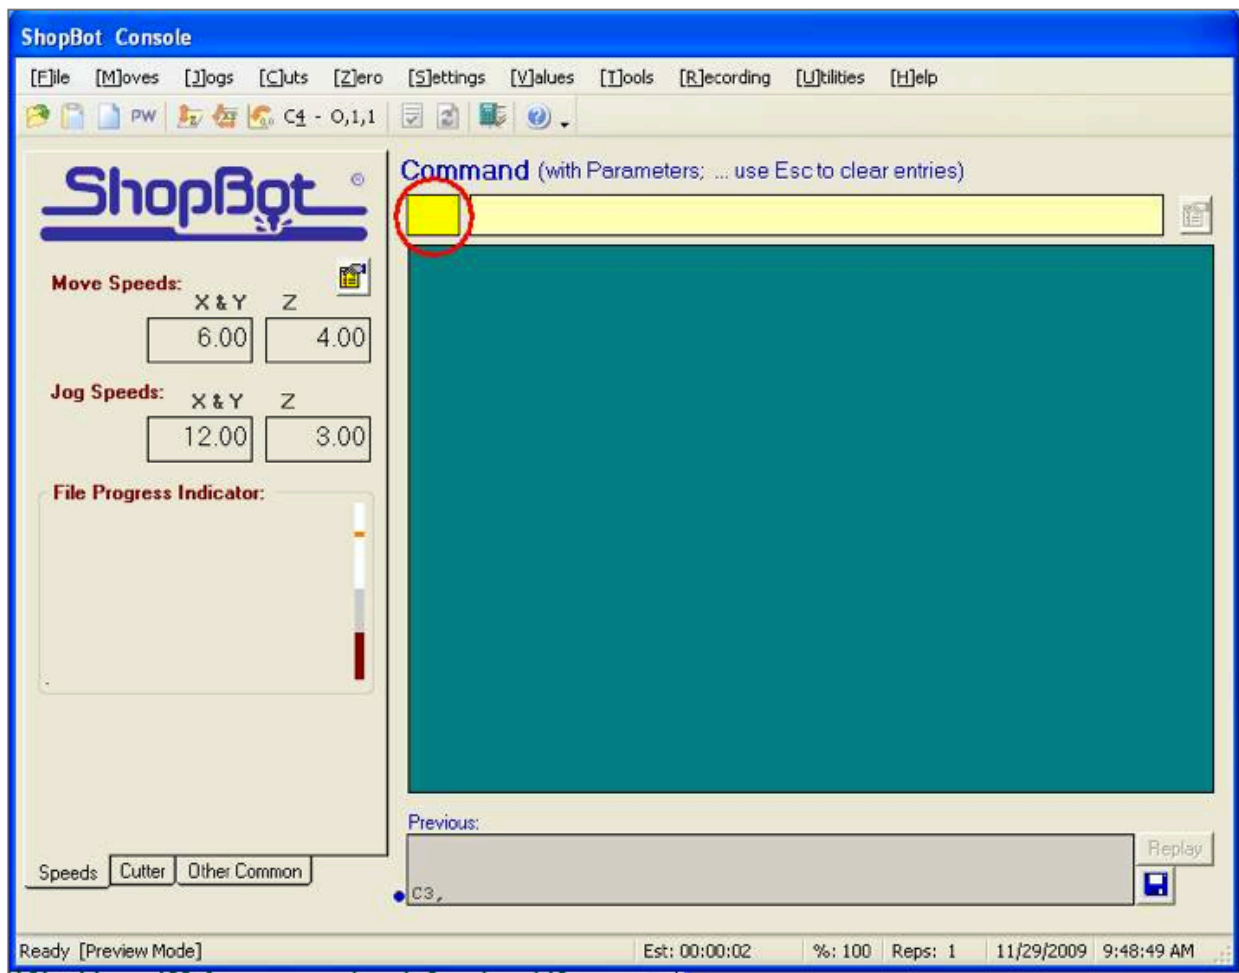

Figure 7: Command Menu in ShopBot 3 Software Interface
7. To manually move the spindle, type **K** on the digital keypad by pressing **K** on your **KEYBOARD** (Figure 7).
10. Repeat step 7. Type **K** on your keyboard to open the Keypad Dialog Box (Figure 7).
14. The following are the most common short keys used in the ShopBot. Take the time to familiarize yourself with each key on the ShopBot 3 Command Line (Figure 7).